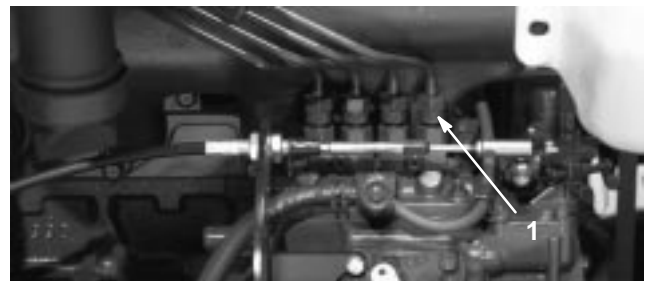

Figure 31
1. Loosen the pipe connection to the No. 1 injector nozzle and holder assembly at the injection pump (Fig. 31).